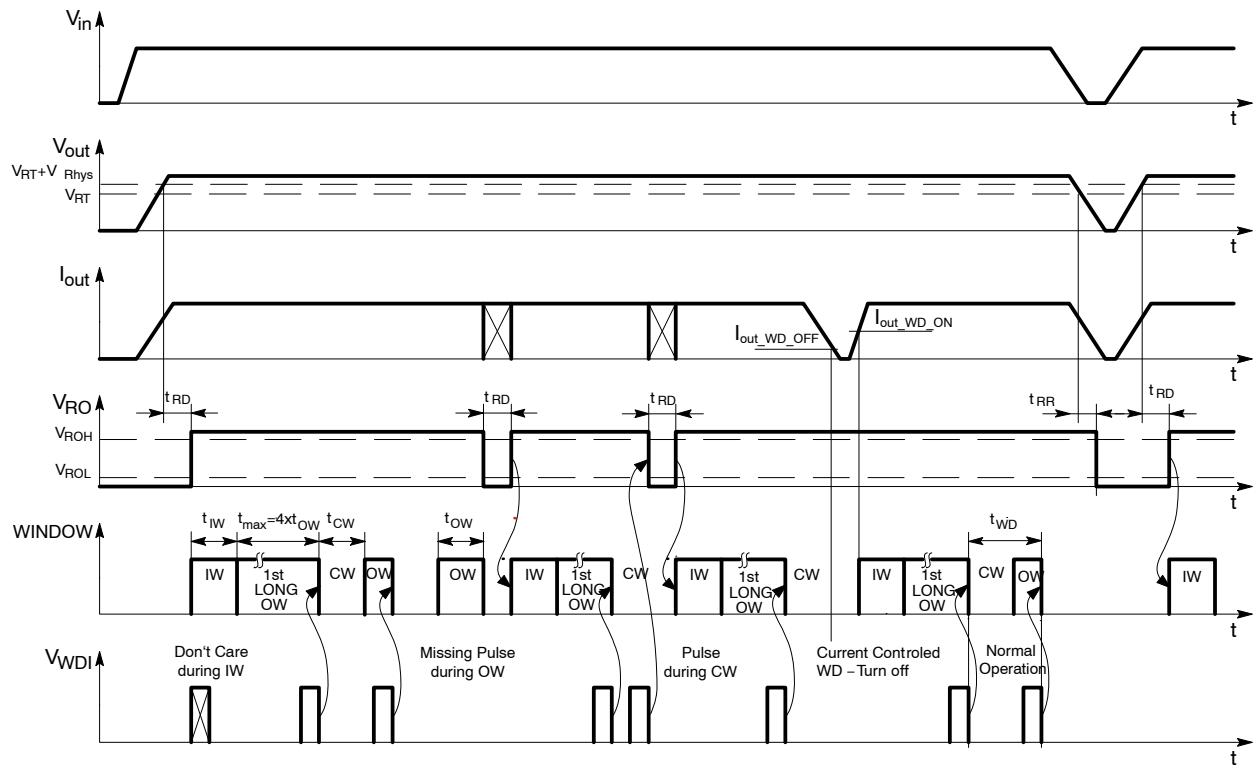
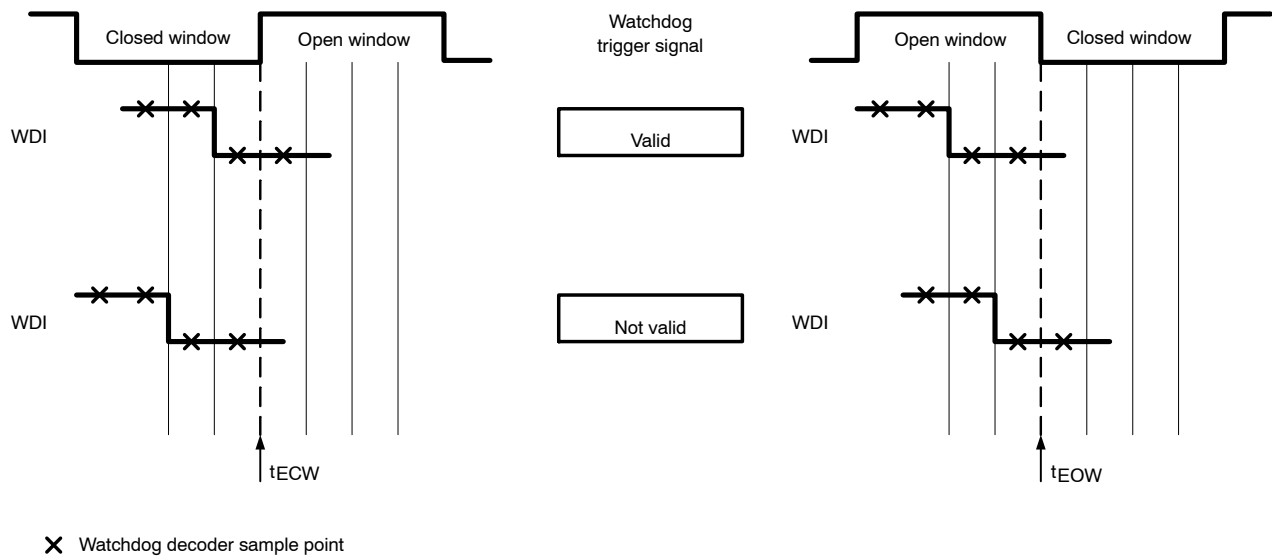

Figure 26. Window Watchdog Signal Diagram
Figure 27. Valid WDI trigger signal
The watchdog slow, fast or off state is set by pins WM1 and WM2 (see table in Figure 25). The timing values used in this description refer to typ. Values when WM1 and WM2 are connected to GND (fast watchdog and reset timing). The state diagram of the window watchdog (WWD) and the watchdog and reset mode selection table is shown in Figure 25. The WWD timing is shown in Figure 26. After power-on, the reset output signal at the RO pin (microprocessor reset) is kept LOW for the reset delay time tRD (16 ms). RO signal transition from LOW to HIGH triggers the ignore window (IW) with duration of tIW (32 ms). During this window the signal at the WDI pin is ignored. When IW ends a long open window with maximum duration of (128 ms, tmax = 4xtOW) is started. When a valid trigger signal is detected during long open window, a closed window (CW) with duration of tCW (32 ms) is initialized immediately. WDI signal transition from HIGH to LOW is taken as a trigger. As valid trigger two HIGH samples followed by two LOW samples (with sampling time tsam = 0.5 ms) have to be present before end of the long window. Valid WDI trigger signal is shown in Figure 27. When CW ends a standard open window (OW) with maximum duration of tOW (32 ms) is initiated immediately. The OW ends immediately when valid trigger appears at WDI input. For normal operation the microprocessor timing of WDI pulses must be stable and correspond to tWD. A reset signal is generated (RO goes LOW) if there is no valid trigger (missing pulse at WDI pin) during OW or if a pre-trigger occurs during the CW (unexpected pulse at WDI pin).